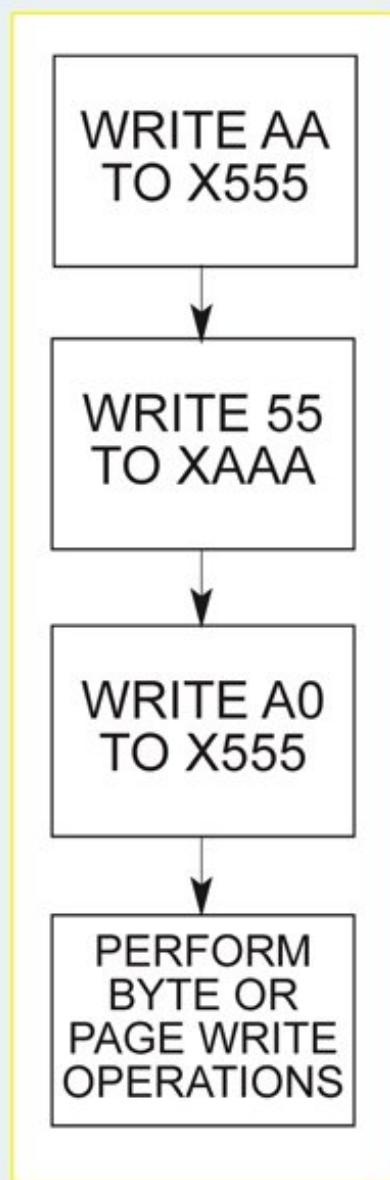

Figure 3.
■ FIGURE 3. Connections.
Use approximately 12 inches of three-conductor wire to remotely connect the DS1822 to the PCB as shown in **Figure 3**. Since the DS1822 sensor will be in water for aquarium use, seal U2 and the wire connections using waterproof epoxy or silicon. A transparent red acrylic front panel will give an attractive finished look